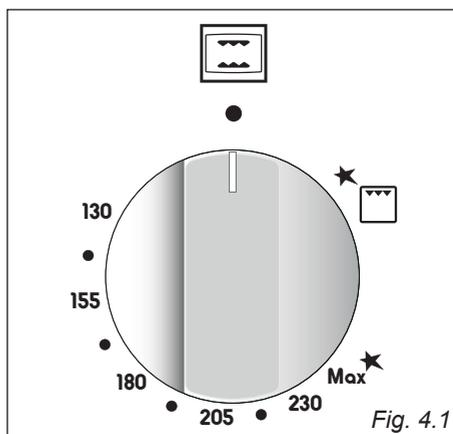

Fig. 4.1
The numbers **130** to **Max**★ printed on the control panel (fig. 4.1) indicate the increasing oven temperature value (see table 4.2).
2. Lightly press and turn the thermostat knob anti-clockwise (fig. 4.4) to max position **Max**★ (fig. 4.1). Press the knob firmly until the burner lights.
2. Lightly press and turn the thermostat knob clockwise (fig. 4.5) to the position  (fig. 4.1).